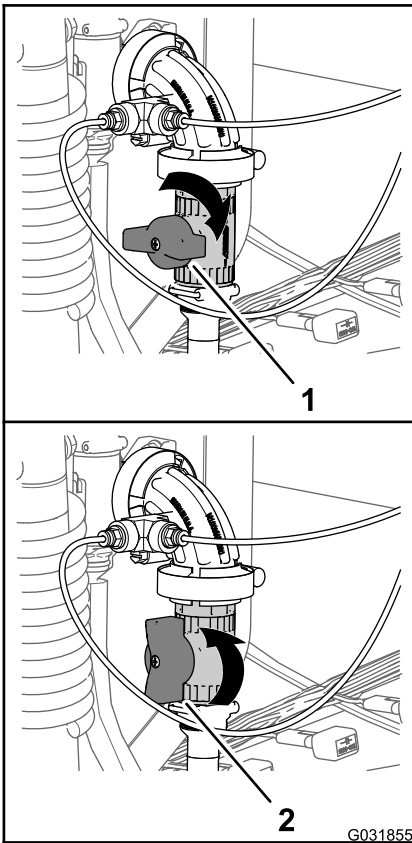

Figure 246
3. Rotate the green handle of the shutoff valve counterclockwise 90 degrees to the OPEN position (Figure 246).
Note: To shut off the flow of fluid to the hand-spray wand of hose reel, rotate the green handle of the shutoff valve clockwise 90 degrees to the CLOSED position (Figure 246).